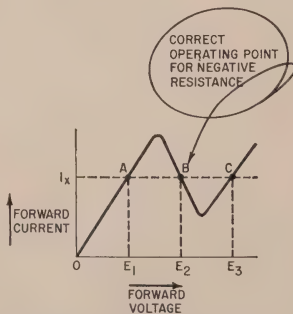

Fig. 1—Conduction characteristic—current I_x flows at points A, B and C, but only point B is in negative resistance region.
2. Check the dc operating point. That is, run through the diode conduction characteristic (Fig. 1) by varying the dc bias voltage and observing the resulting current. (An identical current reading may be obtained along both the positive and negative slopes but at different voltages. It is necessary to know whether current is increasing or decreasing with voltage.) The proper operating point for most experiments is in the negative-resistance region, where current decreases as voltage is increased. Thus, in Fig. 1, the same current flows at point A, (voltage E_1), point B (E_2) and point C (E_3), but only point B is in the negative-resistance region.